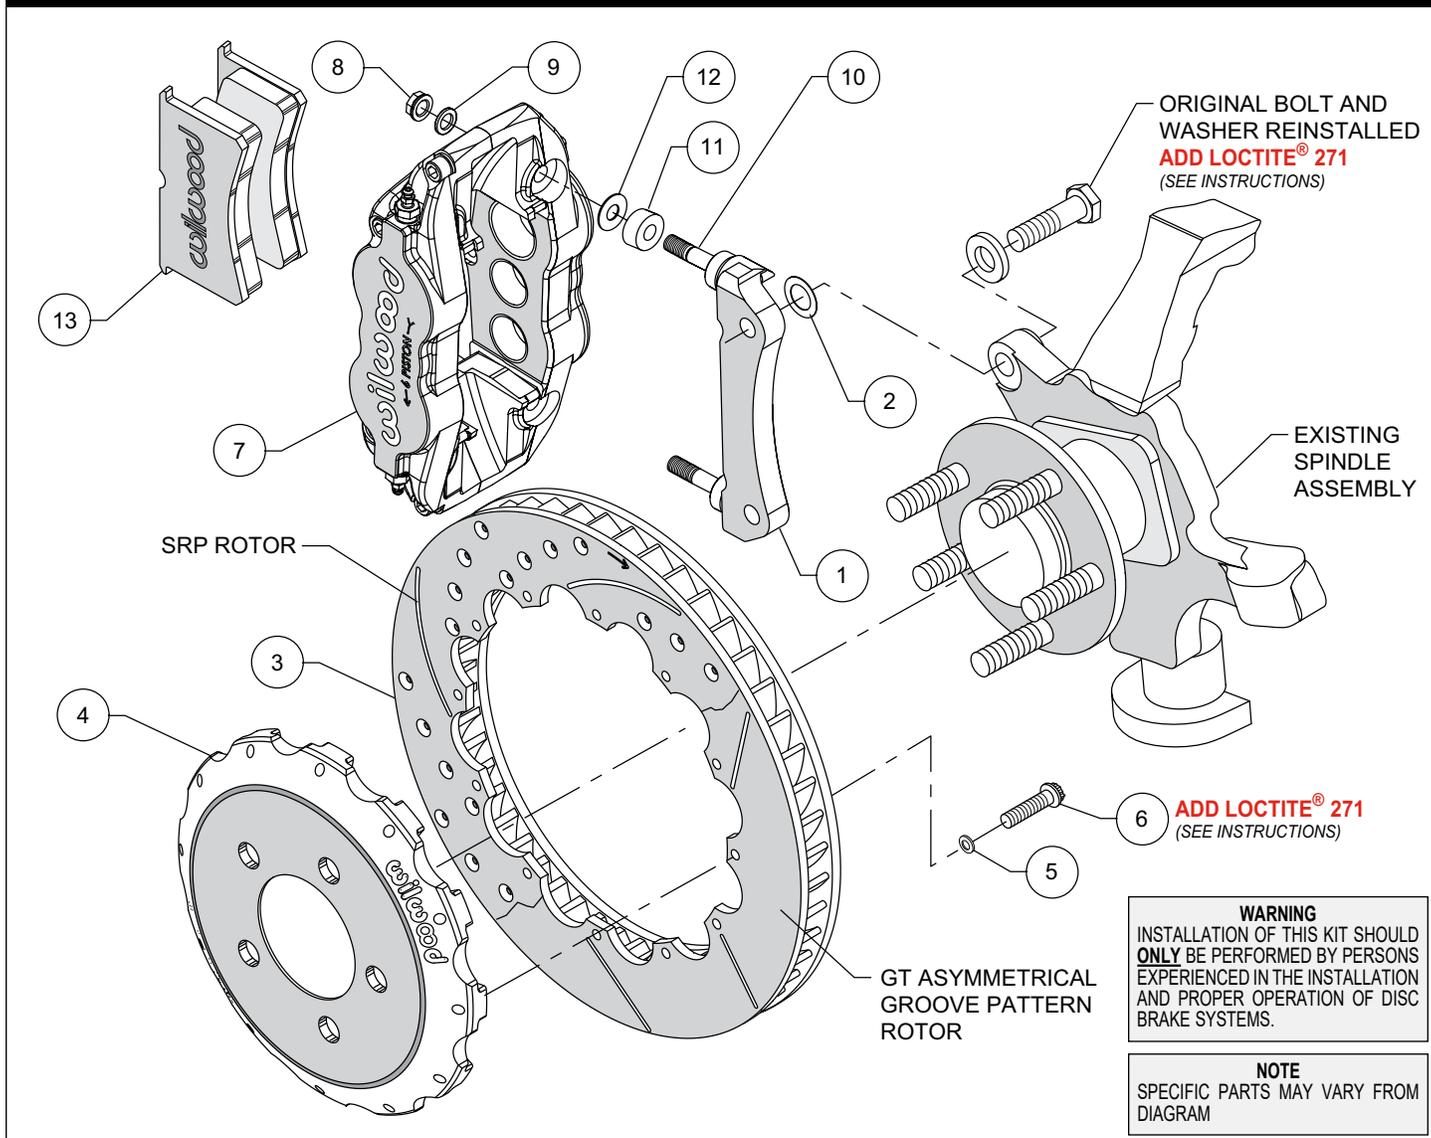
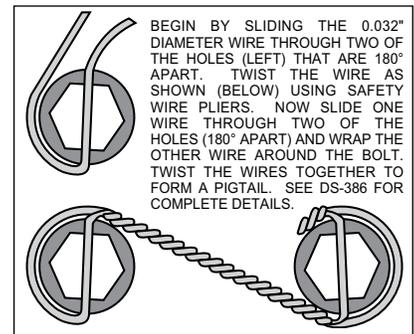

Figure 1. Typical Installation Configuration
Figure 3. Safety Wire Diagram
- Assemble the rotor (3) to the hat (4) with the bolts (6) and washers (5) as indicated in the configuration pictured in Figure 1. Apply red *Loctite*® 271 to the bolt threads and torque to 155 in-lb using a criss-cross pattern. For an added measure of security, the bolts may be safety wired using standard 0.032 inch diameter stainless steel safety wire as shown in Figure 3. Please refer to Wilwood's data sheet DS-386 (available at [www.wilwood.com/Pdf/DataSheets/ds386.pdf](http://www.wilwood.com/Pdf/DataSheets/ds386.pdf)) for complete safety wire installation instructions.
- **NOTE:** This kit contains distinct right and left hand calipers that must be mounted in a specific direction, as described below. Initially place one .035" thick shim (12) and spacer (11) on each stud (10) as shown in Figure 1. Mount the caliper (7) onto the bracket (1) using lock nuts (8) and washers (9), Figure 1. Ensure that the caliper is mounted so that the largest pistons are at the rotor exit end of the caliper, in relation to the direction of rotor rotation. Temporarily tighten the lock nuts and view the rotor through the top opening of the caliper. The rotor should be centered in the caliper. If not, adjust by adding or subtracting shims (2) between the bracket and the upright. Always use the same amount of shims on each of the two mounting bolts. Once the caliper alignment is correct, remove the bracket mounting bolts one at a time, apply red *Loctite*® 271 to the threads, and torque to manufacturer's specifications.
- Remove the caliper center bridge pad retainer bolt, nut, and tube from the caliper. Slide the brake pads (13) into place. They should install easily without interference. Check that the outside radius of the brake pad is aligned with the outside diameter radius of the rotor face. Add or subtract .035 shims (12) between the caliper and mount bracket to gain the proper alignment. Reinstall the center bridge pad retainer tube, bolt, and lock nut. The locknut should be snug without play in the bolt or tube. Be cautious not to over tighten.
- Once all clearances have been checked, remove the wheel, caliper, hat, and rotor from the spindle and hub. Secure the caliper mounting bracket (1) to the spindle using red *Loctite*® 271. Torque the bolts to 65 ft-lbs. Reinstall the hat and rotor assembly and again use several lug nuts to hold it in place. Reinstall the caliper and torque the caliper nuts (8) to 28 ft-lbs.